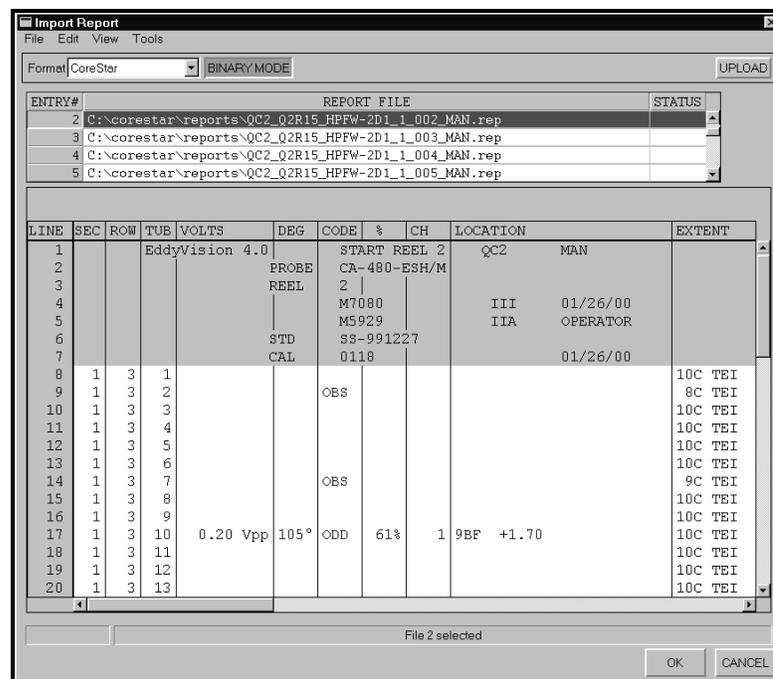

Figure 5-4. Import Report Window
- Find the reports called `QC2_Q2R15_HPFW_2D1_1_#_MAN`. Select the first report and then holding down the **Shift** key select the last report. All the reports labeled `QC2` should be selected. **Click Open**. Now the reports should be listed in the **Report Path Display** as in Figure 5-4.